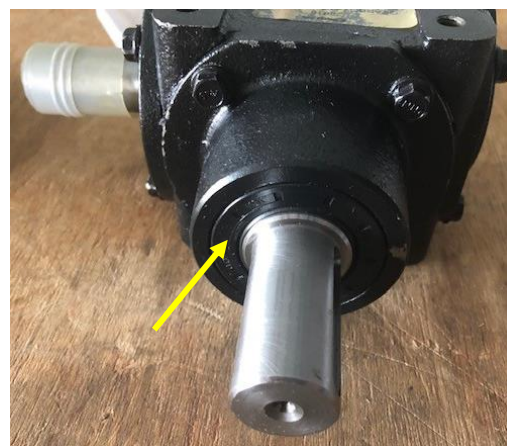

Figure 111
5. Use a seal puller to remove the seal from the neck of the gearbox. Figure 111